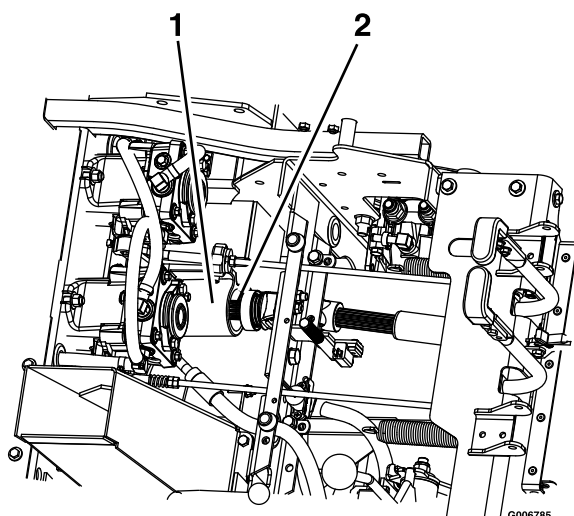

Figure 3
3. Raise seat and install drive shaft onto jackshaft (see Figure 3)
8. Raise seat and disconnect drive shaft using quick coupler at jackshaft (see Figure 3).